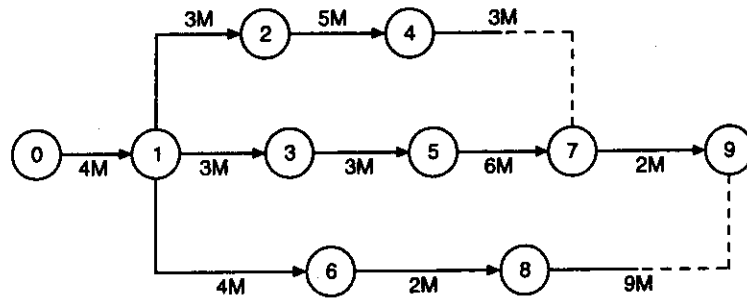

Fig. 8.69
Step 3. After the squared network, draw the resource histogram as shown below in *Fig. 8.69*. This is based on the earliest start times, and is obtained by vertically summing up the man-power requirements for each week.